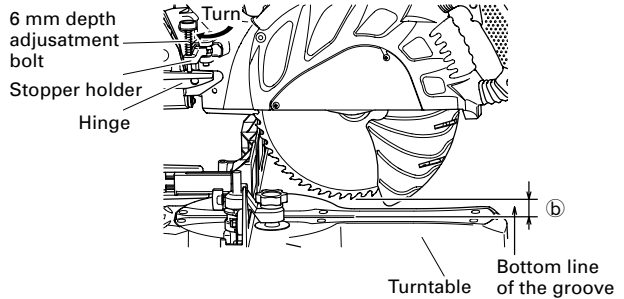

Fig. 49
- (1) Turn the stopper holder on the direction shown in Fig. 49. Lower the motor head, and turn the 6 mm depth adjustment bolt by hand. (Where the head of the 6 mm depth adjustment bolt contacts the hinge.)